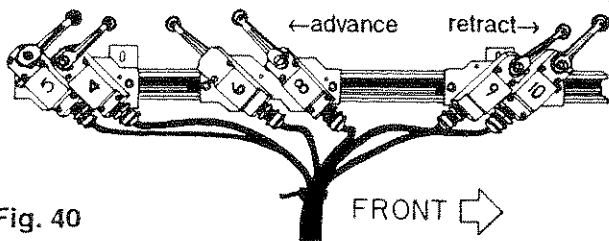

Fig. 40
6. Use stopwatch to accurately measure plunger return time. Return time should be 2.4 - 2.8 seconds with plunger stopping 1" from the fully retracted position. See **Fig. 40**.
13. **LS10** (Plunger Return Stop Switch) should be positioned so that the plunger stops 1" prior to its full retract position. To achieve the correct adjustment it will be necessary to reposition **LS9** and **LS10** on their mounting plates. See Fig. 40.